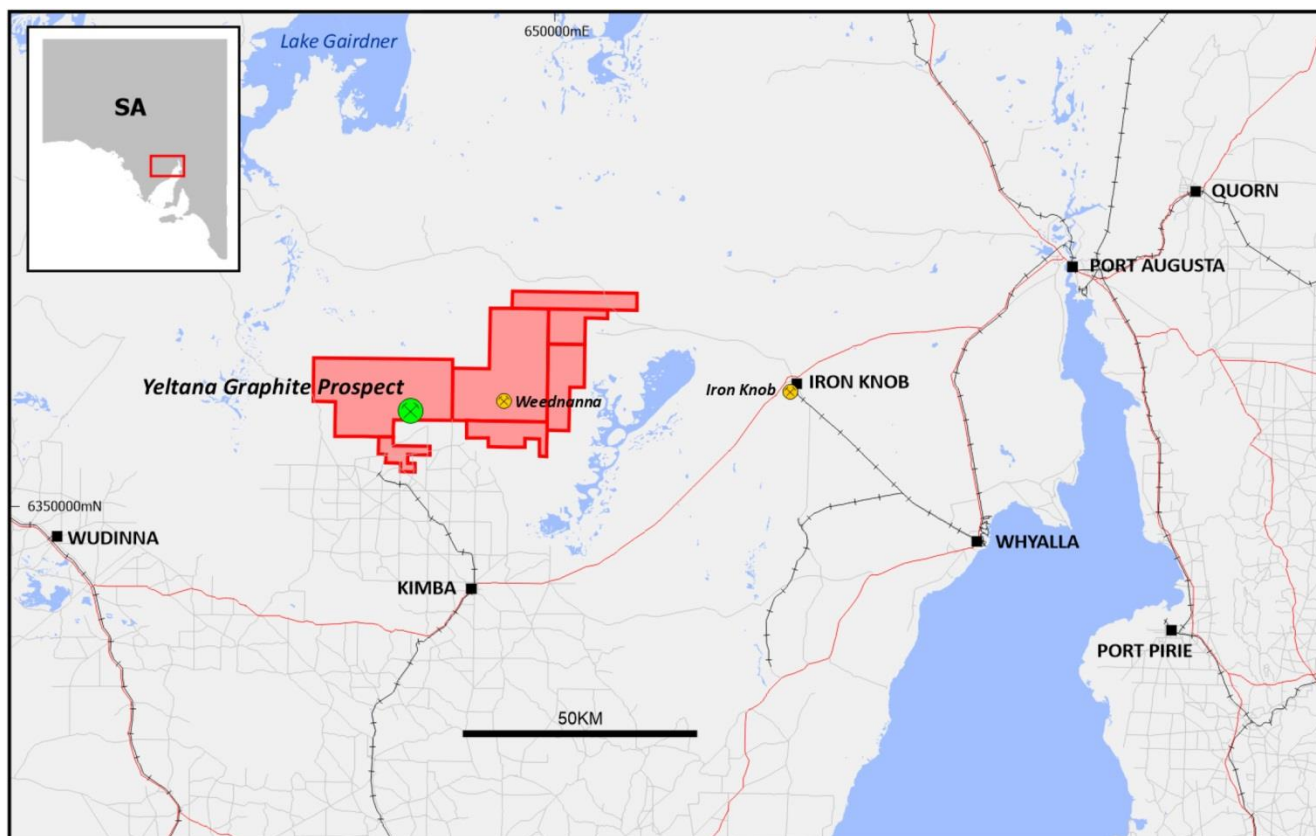

Figure 1. Location of Yeltana Graphite Prospect
The Yeltana Graphite Prospect is located 40 kilometres north-northwest of Kimba, on the northern Eyre Peninsula in South Australia (Figure 1). The prospect was first identified by a helicopter borne electromagnetic survey completed in early 2017 and more accurately defined by a high powered (HP) moving-loop electromagnetic (MLEM) survey completed in May and June 2017.